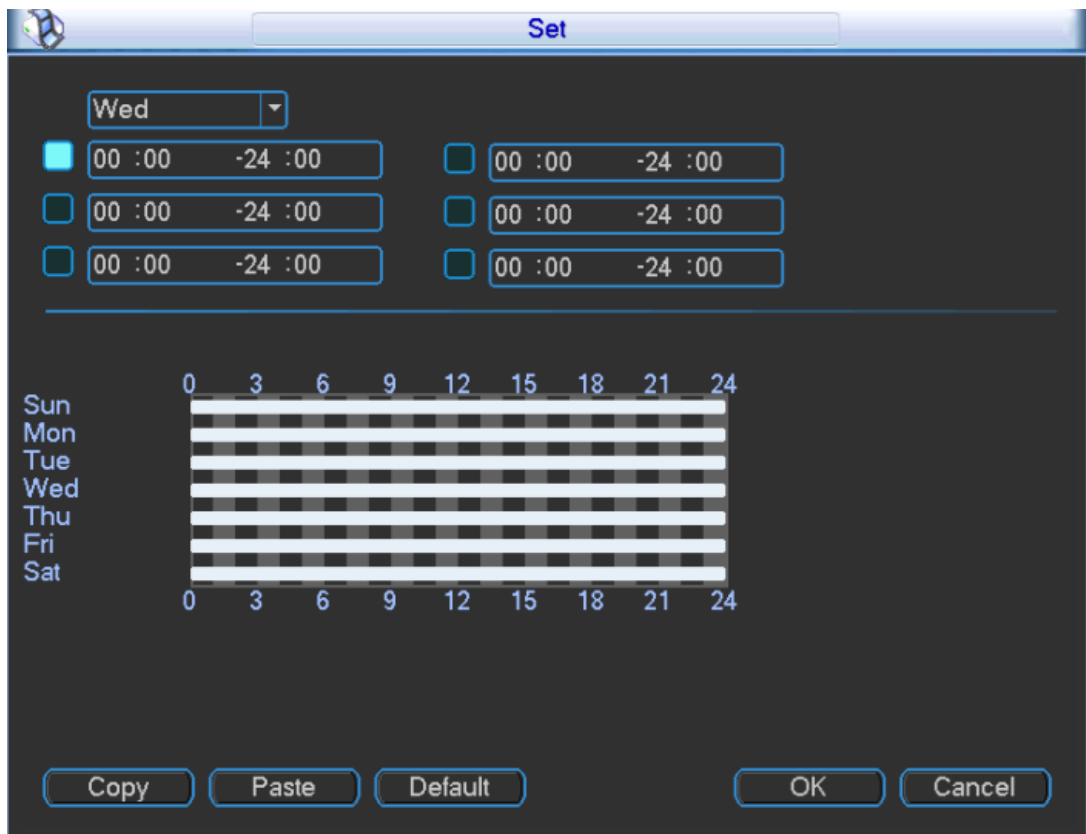

Figure 3-54
Step 1 Click "Set" in the right of "Period". The system displays setup interface of arming and disarming period, as shown in Figure 3-54.